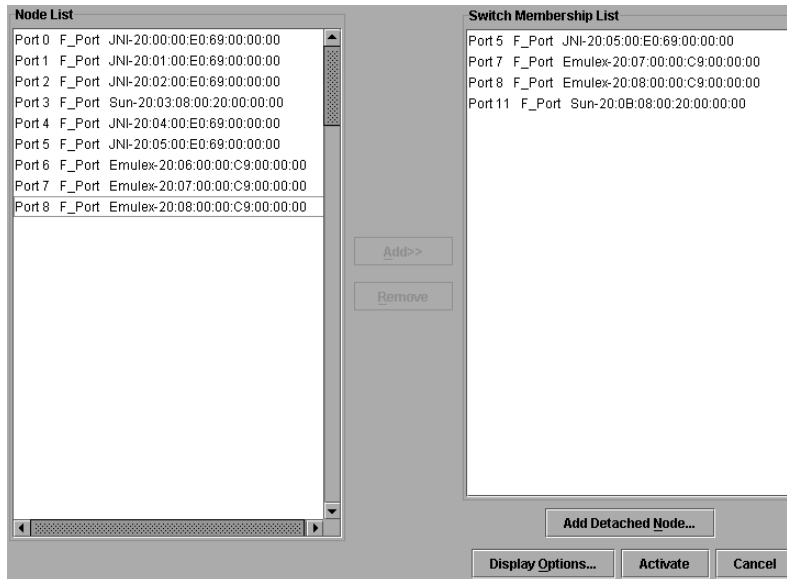

Figure 2–29: Switch Binding Membership List dialog box
1. Choose the **Configure > Switch Binding > Edit Membership List** from the **Product Manager** window. The **Switch Binding Membership List** dialog box displays, as shown in Figure 2–29.